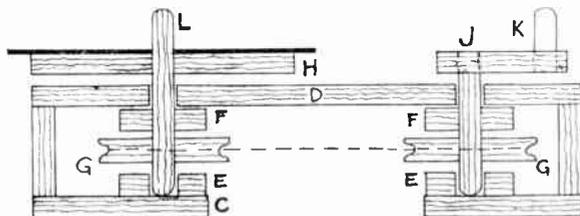
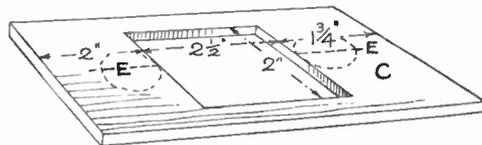

Fig. 2—Sectional drawing showing the working parts
Fig. 3—Details of the floor
In the illustration is shown how the finished article will look when completed and painted up. The method of working the toy is simple and is easily explained in the plan Fig. 1 and the sectional diagram Fig. 2.
We commence the making of the toy by outlining and cutting the sides and ends of the box (A) and (B) respectively in Fig. 1. Sides (A) are  $6\frac{1}{4}$  ins. long by 1 in. wide, and ends (B)  $2\frac{1}{2}$  ins. long by 1 in. wide. Wood  $\frac{1}{4}$  in. thick is used throughout in making the toy. The floor (C) of the box is shown in Fig. 3 and its size is  $6\frac{1}{4}$  ins. by 3 ins. On this piece is set out the measurements of the square of wood which is to be cut out, the idea of its removal being to allow space for
Next prepare the four discs (E) and (F) in Fig. 2. These are drawn with com-
passes set at  $\frac{1}{2}$  in. radius, and in the centres  $\frac{1}{2}$  in. holes must be cut, these holes in one pair of discs (E) must be enlarged—or cut round with the fretsaw to full  $\frac{1}{8}$  in. so as to give freedom of movement of the upright spindles—see Fig. 2.
Now take in hand again the floor (C) and run a centre line in pencil lengthways each side of the open square—see Fig. 3, and on this glue the two discs (E) in exact position shown by the dotted lines; see also cross section Fig. 2 for these two discs.
measurements given in plan Fig. 1. The sides and ends (A) and (B) are next glued to the top of the box, see Fig. 2, and, for additional strength, four ½in. square blocks of wood should be glued in the angles formed between sides and ends (see plan). Next turn to the making and assembling of the crank and its spindle, and the long spindle (L) and disc (H).
Now take the spindle (L). This is about 2½ins. long; and the disc (H) to go over its top must be 3ins. in diameter and is glued ½in. down the spindle as seen in Fig. 2. The two pulleys (G) are next made 1½ins. in diameter with ½in. holes in the centres. The grooves are cut round the edges by means of a rat-tailed file, the discs being held conveniently in a vice during the process. Cut the grooves deeply so that the belt has a substantial hold when in use.
Careful attention must now be paid to the assembly of these working parts. Taking the crank first, proceed to (1) glue crank to spindle, (2) push spindle through top (D), and work on the disc (F), first wiping the spindle with glue where this disc will eventually come, that is, just clear of the underside of the top (D), see section Fig. 2. (4) Push on pulley (G), adding glue to spindle as for disc (F). The distance from the lower surface of pulley to the end of spindle should be full ½in. Note that the end of the spindle is rounded where it goes into disc (E) on the floor.